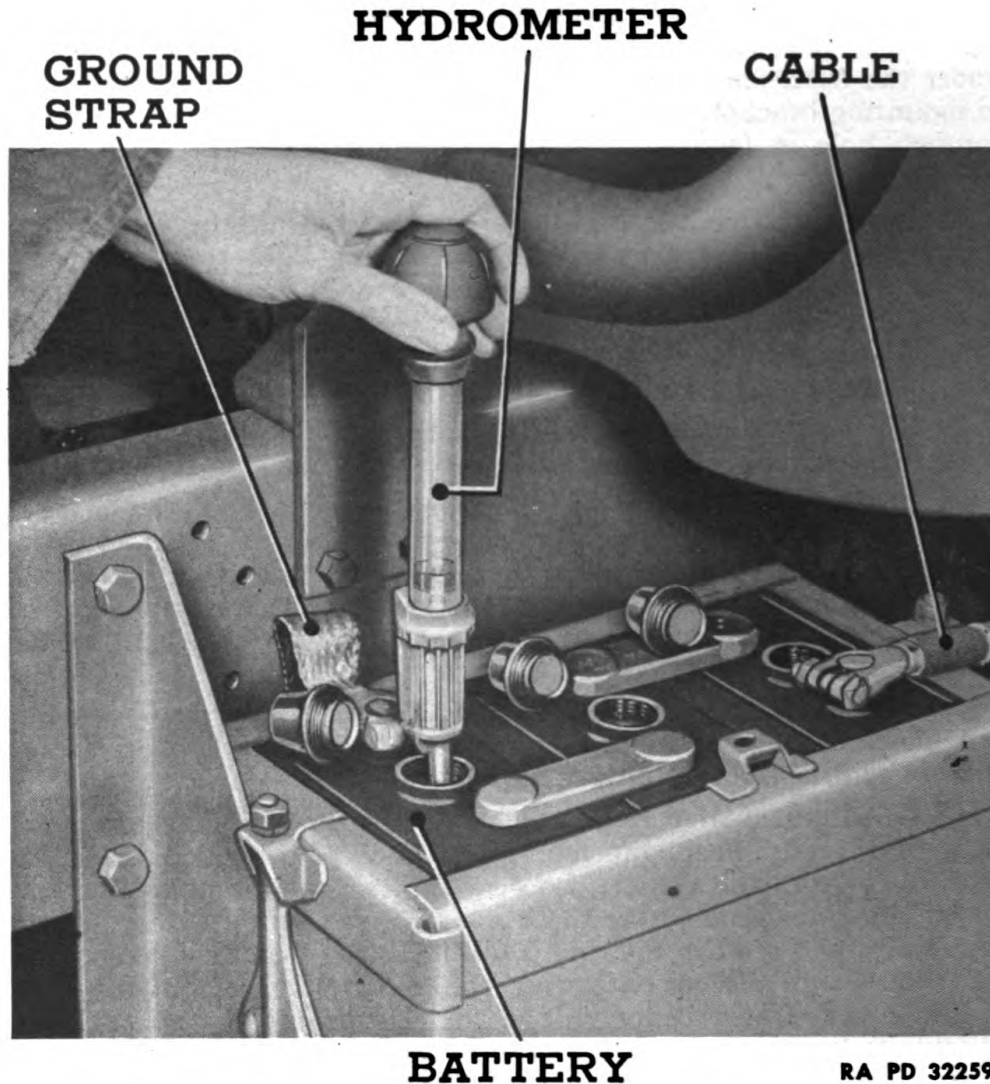

Figure 64—Specific Gravity Test of Battery
(1) **DESCRIPTION** (fig. 64). The battery is mounted in a hanger located outside of the frame side rail to the rear of cab step on the right side of the truck. It is protected by a removable cover, attached by two thumb screws, that provides access for testing and filling the battery.